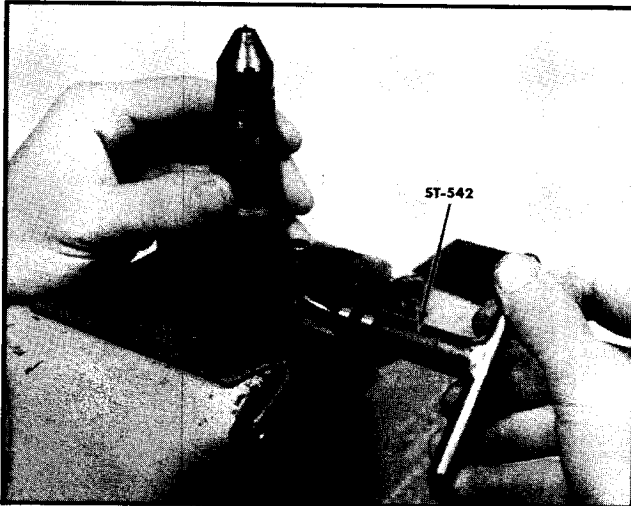

Fig. 6-13. Refacing inlet connection seal surface
9. Reface inlet and outlet seal surface if rough. Use ST-542 spot-facing tool to face seal surface to assure a better seal between connection and injector body. Fig. 6-13.